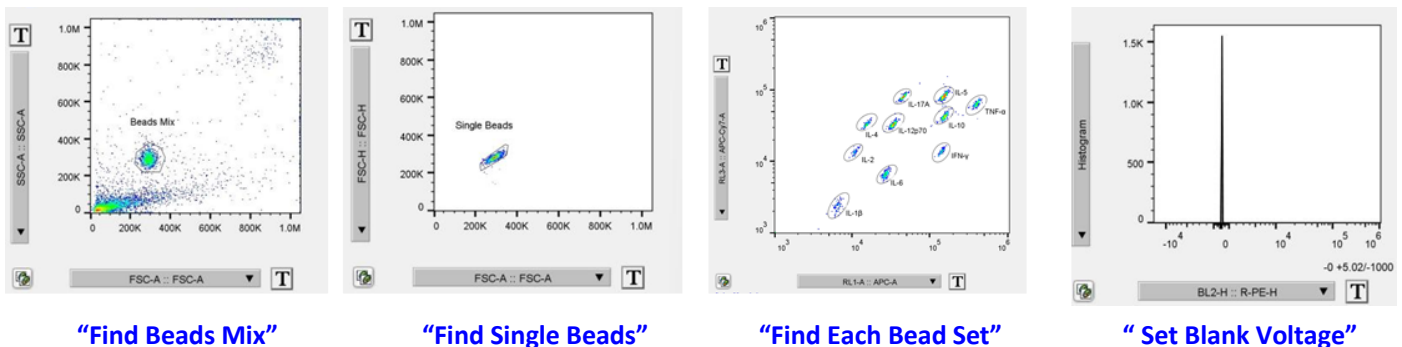

Fig 5. Procedure of create Gate “Beads Mix”
- Adjust FS and SS gains so that the bead populations are on scale and create Gate “Beads Mix” (Figure 5).